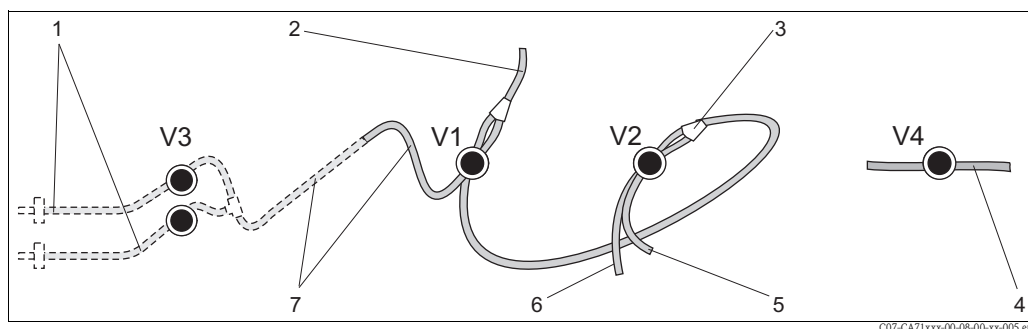

Fig. 22: Valves and valve hoses
4. Install the new pump hoses in the reverse sequence of operations. Ensure that the hoses are connected correctly (→ Abb. 22).